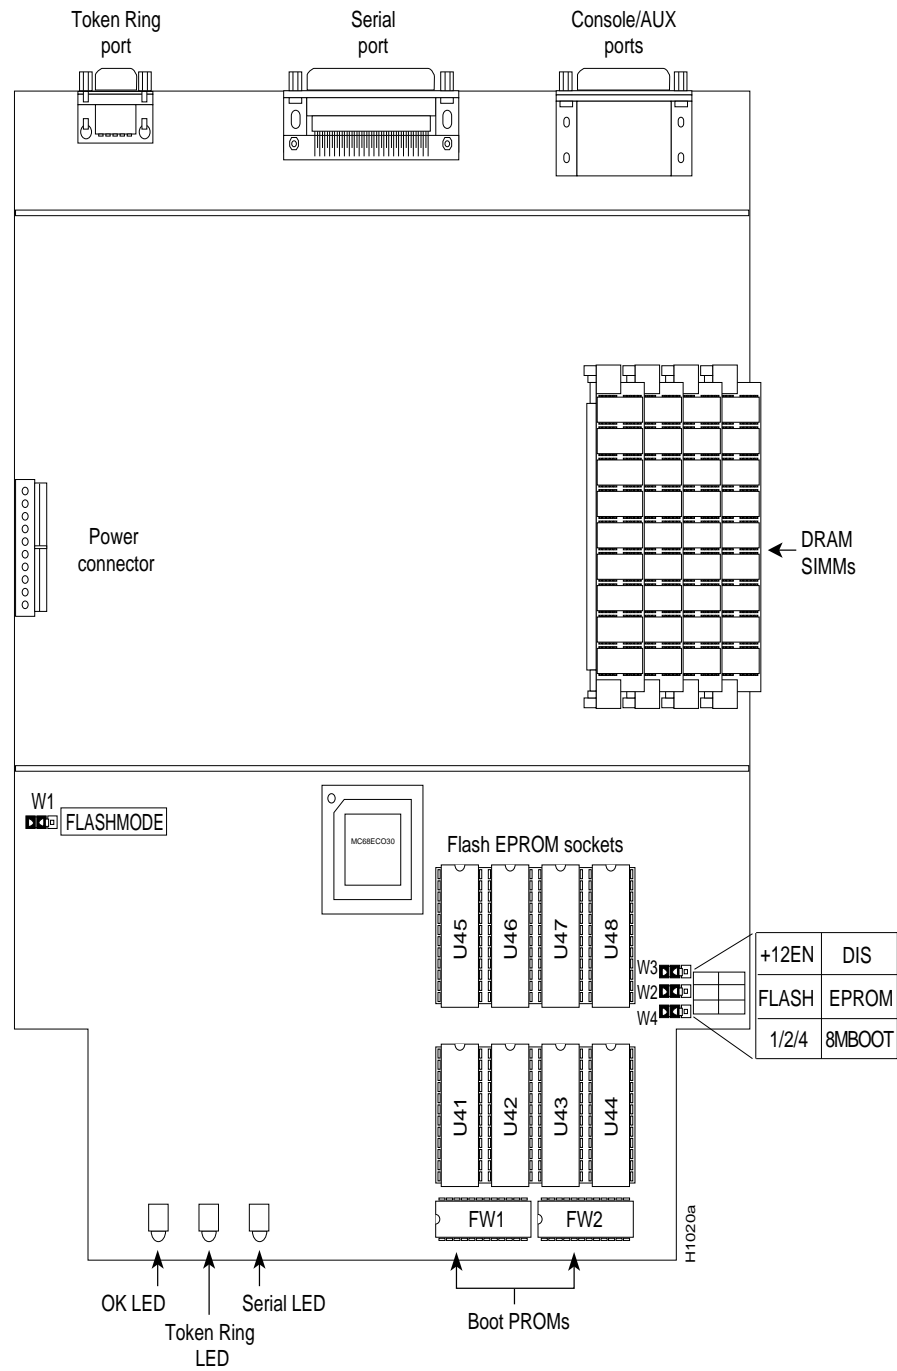

Figure 3 IGS/TR Card Layout
Figure 3 illustrates the IGS/TR card layout. The card is oriented with the front panel LEDs at the bottom of the illustration. Refer to this figure to locate the EPROMs on the system card.
- Step 1:** Locate the EPROMs labeled U41–U48 at the front of the unit (see Figure 3). Note the orientation of the notches on the EPROMs to aid in inserting the new EPROMs. Do not rely on the EPROM labels for correct positioning.
- Step 3:** Insert the Flash EPROMs in the sockets U41–U48 in the order shown in Figure 3, being careful not to bend or crush any of the pins. To straighten out a bent pin, use needle-nosed pliers. Align the notch in the EPROM with the notch in the EPROM socket, *ignoring the orientation of the label*. Also, be sure to insert the Flash EPROMs using the same orientation as the EPROMs you are replacing.
- Step 4:** Insert the boot PROMs, labeled FW1 and FW2 in the empty sockets, as shown in Figure 3. Align the notches in the boot PROMs with the notches in the boot PROM sockets.